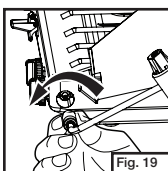

Fig. 19
- Remove regulator from stove. (Fig. 19)